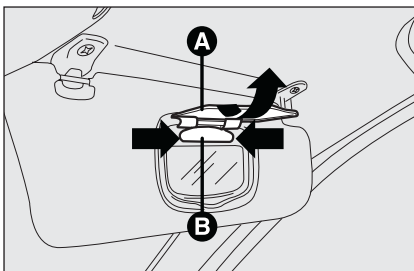

fig. 45
- open the mirror cover **A**-fig. 45;